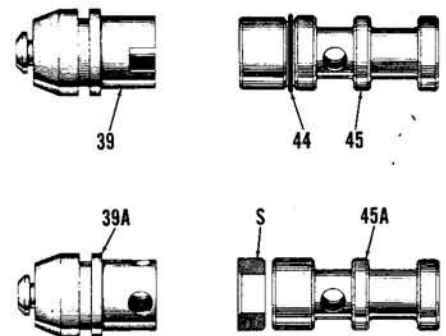

Fig. 209—View showing early type (top) and late type (bottom) check valve seat and pilot. Refer to text for interchangeability.
Two different types of check valve seats have been used; refer to Fig. 209. Early production model "FSM" systems were equipped with a one-piece hardened steel seat (44). Late production models have a "Delrin" material seat (S) with an inner bushing (45A). A different pilot (39A) is required with the "Delrin" seat. The late pilot, seat and inner bushing are interchangeable as a group with the earlier pilot (39), "O" ring (44) and seat although the parts are not interchangeable individually.
To install new early type seat, install new "O" ring (44—Fig. 209) on seat, lubricate bore, seat and "O" ring and install seat by threading puller into seat and driving the seat into housing until it contacts shoulder in bore.